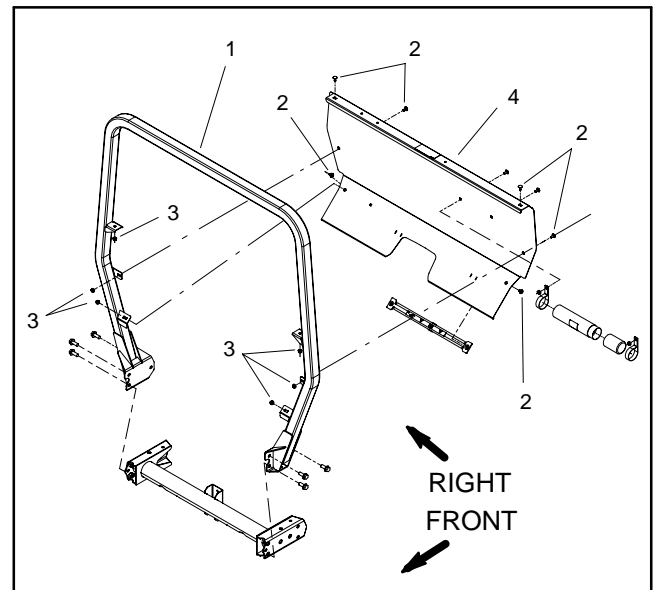

Figure 30
2. Remove six (6) carriage screws and flange nuts that secure ROPS cover to ROPS frame. Remove cover from vehicle (Fig. 30).
4. Remove four (4) socket head screws that secure each seat to vehicle. Lift both seats from vehicle.
5. Install ROPS cover to vehicle (Fig. 30).